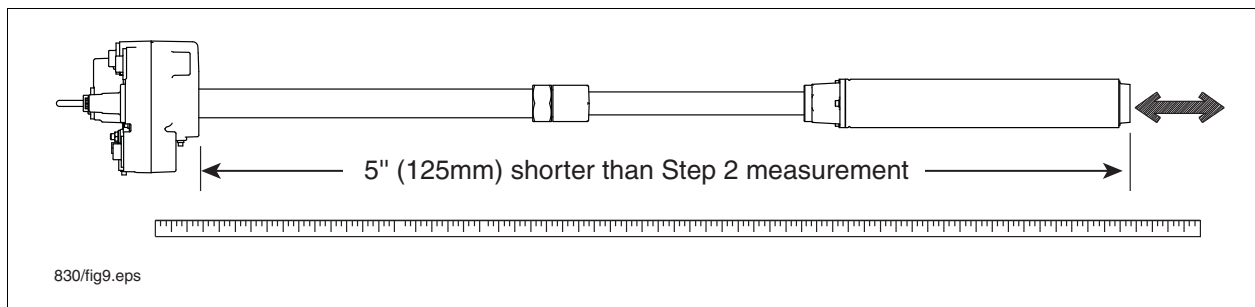

Figure 10. Adjusting Pump Length
Note: For fixed-length pumps, referencing Figure 10, verify the distance between the bottom of the manifold and the bottom of the UMP is 5 inches (125mm)(15 inches [381mm] for floating suction) shorter than the distance measured in Step 2. Uncoil the pigtail at the top of the packer. Then go to Step 7.
- Referencing Figure 10, pull the UMP end until the distance between the bottom of the manifold and the bottom of the UMP is 5 inches (125 mm) (15 inches [381 mm] for floating suction) shorter than the distance measured in Step 2.